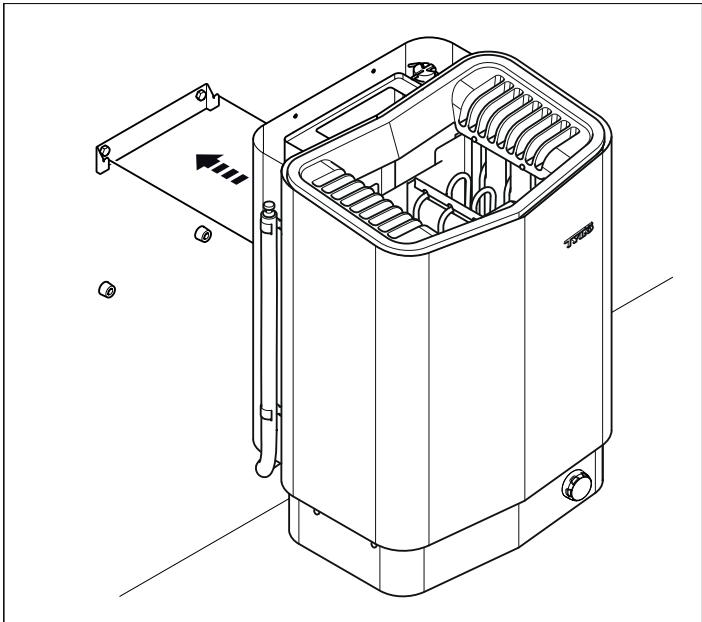

Figure 11: Hang the heater up.
9. Hang the heater (see Figure 11).